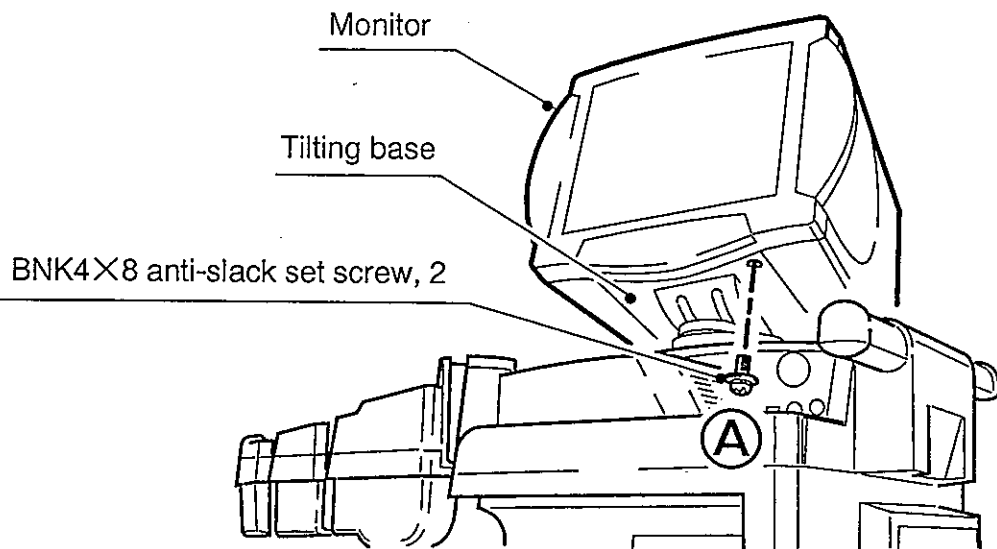

Fig. 29
- 9-1. Monitor . . . . . ※ Operation (1) below is not required for equipment other than that destined for PAL.
- (1) Unfasten 2 screws and remove cable slip-preventive hardware. (A in fig.)
- (2) Remove power cable. (B in fig.)
- (3) Loosen 2 mounting screws and remove signal cable. (C in fig.)
- (4) Rotate tilting base so that its right front screw will be positioned as illustrated below. Then, push up monitor in front and unfasten 1 screw. (Symmetrically, unfasten 1 screw, likewise, on the left side of body.) (A in fig. 29)